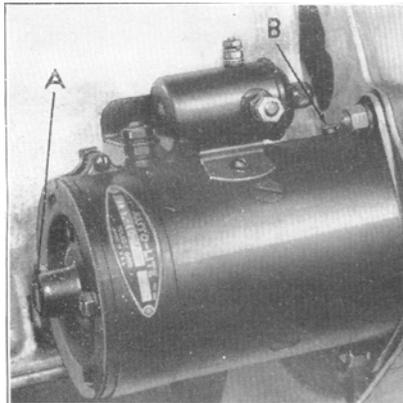

Figure 23
The starting motor, Fig. 23, is located at the rear left corner of the engine and is fitted with a separate solenoid switch. Control of the starting motor is by means of a push button located on the instrument panel to the right of the ignition lock.
**LUBRICATION** — Two small oilers are provided for lubrication of the bearings. Every 2,000 miles the two oilers, (A) and (B), see Fig. 23, should be lubricated with a few drops of light engine oil. *Do this sparingly to prevent over-oiling.*